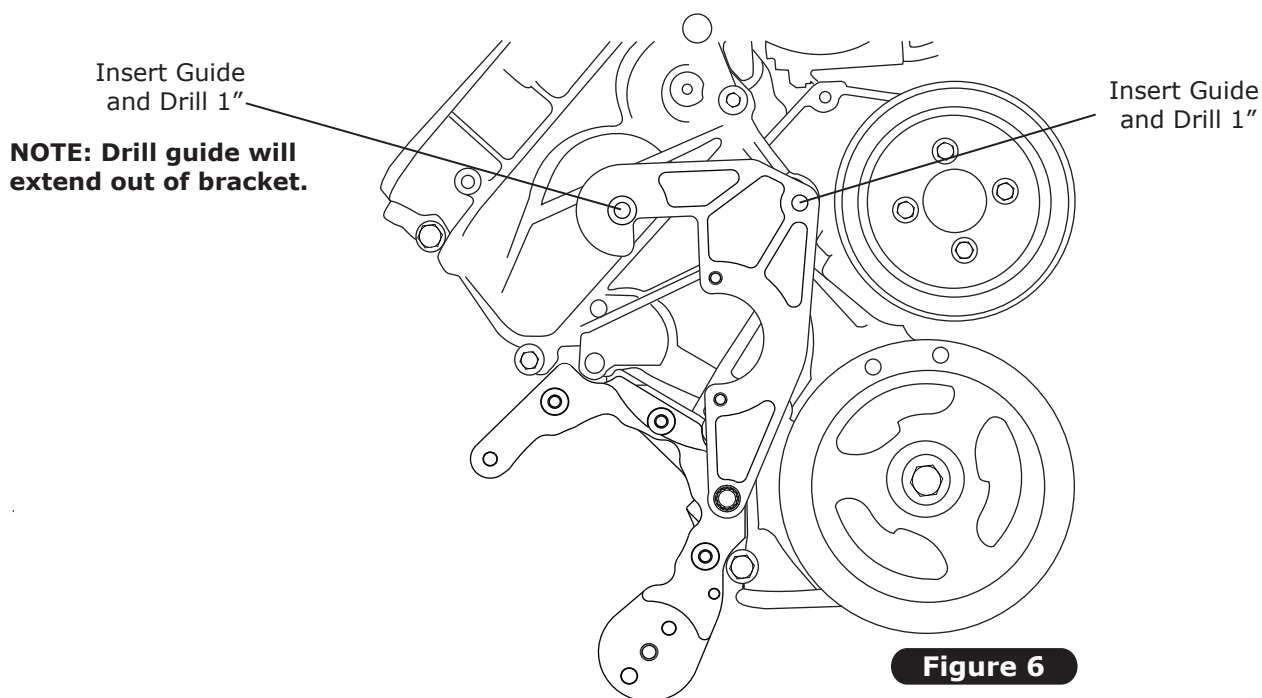

Figure 6
2. With upper bracket secured to lower bracket assembly, use included guide and upper bracket to drill one inch into mounting bosses (See Figure 6, below).